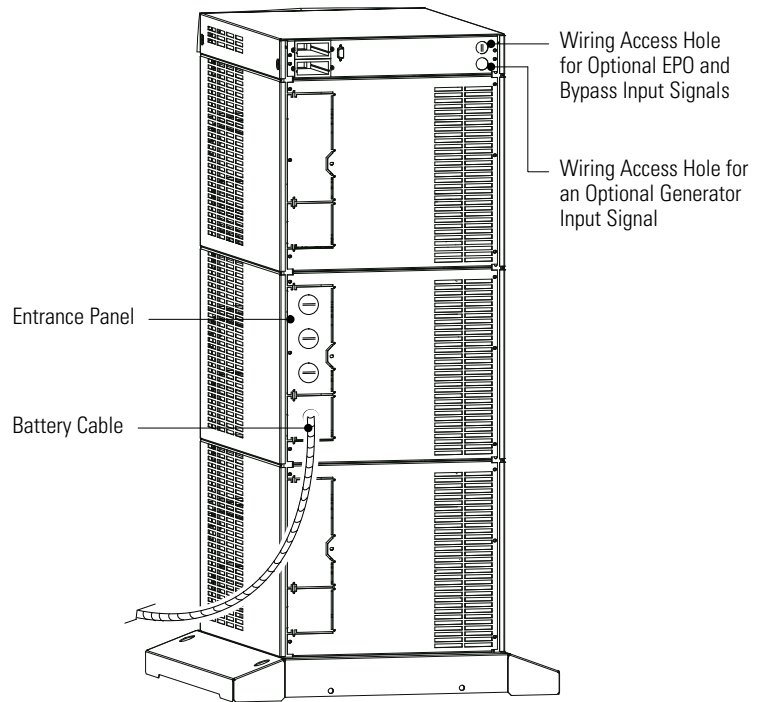

Figure 14. UPS Power Entrance Panel (Nine-Slot Cabinet Shown)
4. Unscrew and remove the rear cover(s) of the UPS (top cover on 3- or 6-slot; top two covers on 9- or 12-slot). See Figure 14.
The entrance panel contains knockout openings for entrance and exit conduits and for conduit to an optional external battery cabinet. The entrance panel is located on the top 3-slot section for 3- and 6-slot cabinets; on the second section for 9- and 12-slot cabinets as shown in Figure 14.